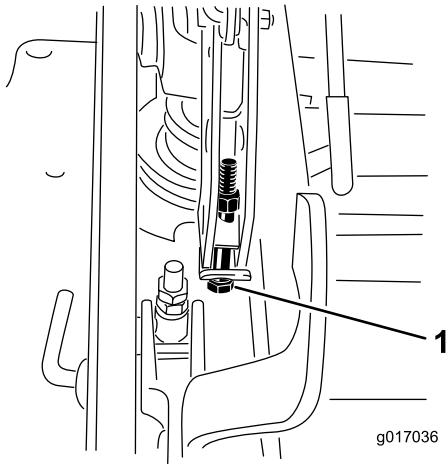

Figure 98
13. If the deck is too low, tighten the single point adjustment bolt by rotating it clockwise. If the deck is too high, loosen the single point adjustment bolt by rotating it counterclockwise (Figure 98).